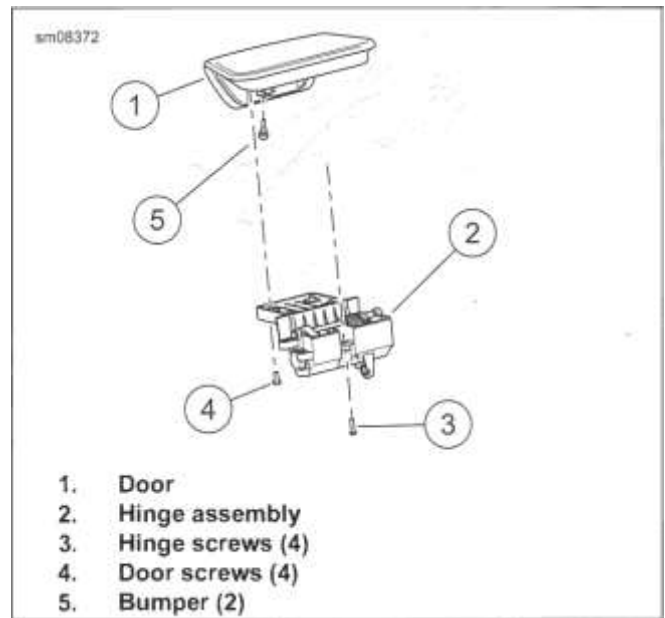

Figure 3-123. Glove Box Door and Hinge
1. See Figure 3-123. Hold door (1) open. Remove four screws (4) .
- See Figure 3-123. Apply threadlocker to threads of screws (4).
- See Figure 3-123. Remove screws (4) and door (1).
- Remove screws (3). Remove hinge assembly (2).
See Figure 3-123. If removed, install new storage compartment door bumpers (5) in door.